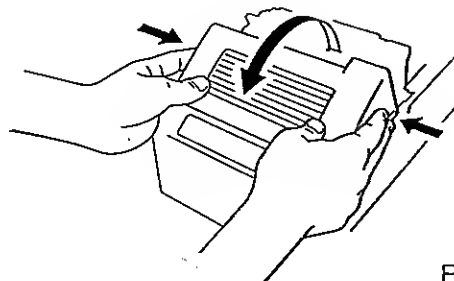

Fig. 1
- 2) Remove the ribbon cover by lifting up on both edges of the ribbon cover. (Fig. 1)